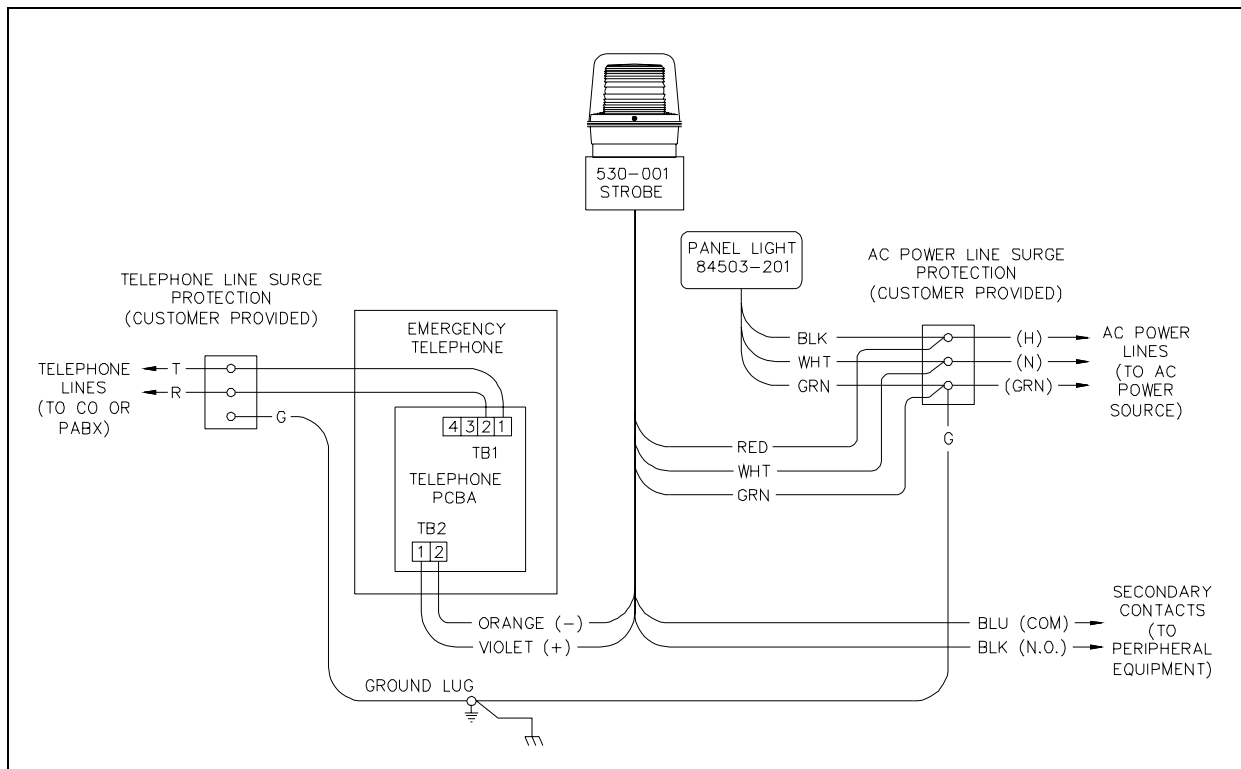
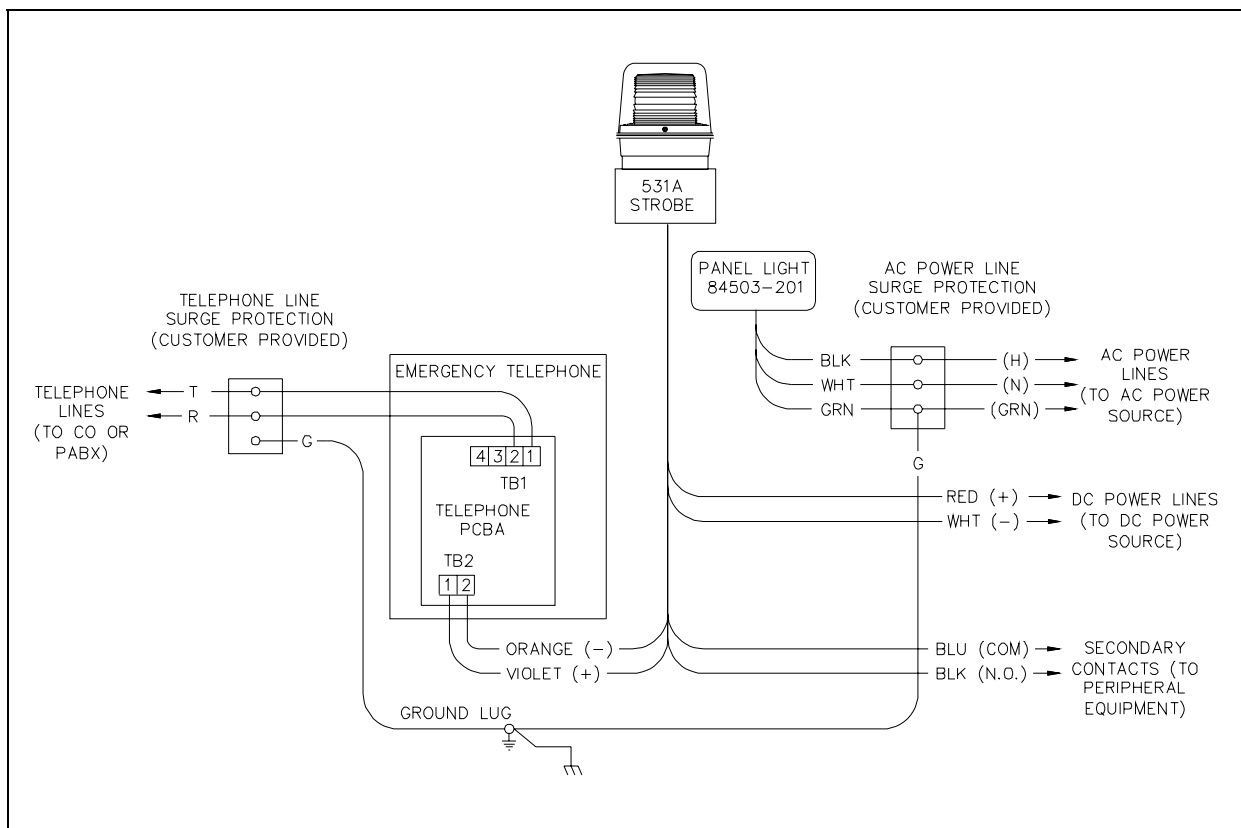

Figure 8. Interconnection Diagram with AC-Powered Strobe
Figure 9. Interconnection Diagram with DC-Powered Strobe
4. Install a ground wire between the telephone line surge suppressor (sold separately) and the grounding lug on the bottom of the stanchion. See Figure 8.
5. Connect the telephone line to the surge protection as shown in Figure 8.
9. Attach the telephone cable from the surge protector to TB1 on the telephone PCBA as shown in Figure 8.
10. Attach the strobe's violet and orange control wires to TB2 on the telephone PCBA as shown in Figure 8.
3. Connect the incoming ac power line to the surge protection as shown in Figure 8.
4. Connect the red, white, and green wires of the Model 530-001 AC Strobe to the surge protection as shown in Figure 8. When using the Model 531A DC Strobe, connect the red and white wires to the dc power source as shown in Figure 9.